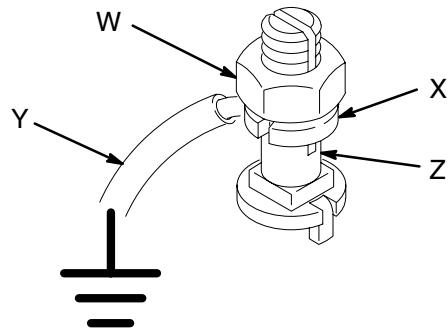

Fig. 2
*Premier Pumps:* use a ground wire and clamp. See Fig. 2. Loosen the grounding lug locknut (W) and washer (X). Insert one end of a 1.5 mm2 (12 ga) minimum ground wire (Y) into the slot in lug (Z) and tighten the locknut securely. Connect the other end of the wire to a true earth ground. Order Part No. 222011 Ground Wire and Clamp.